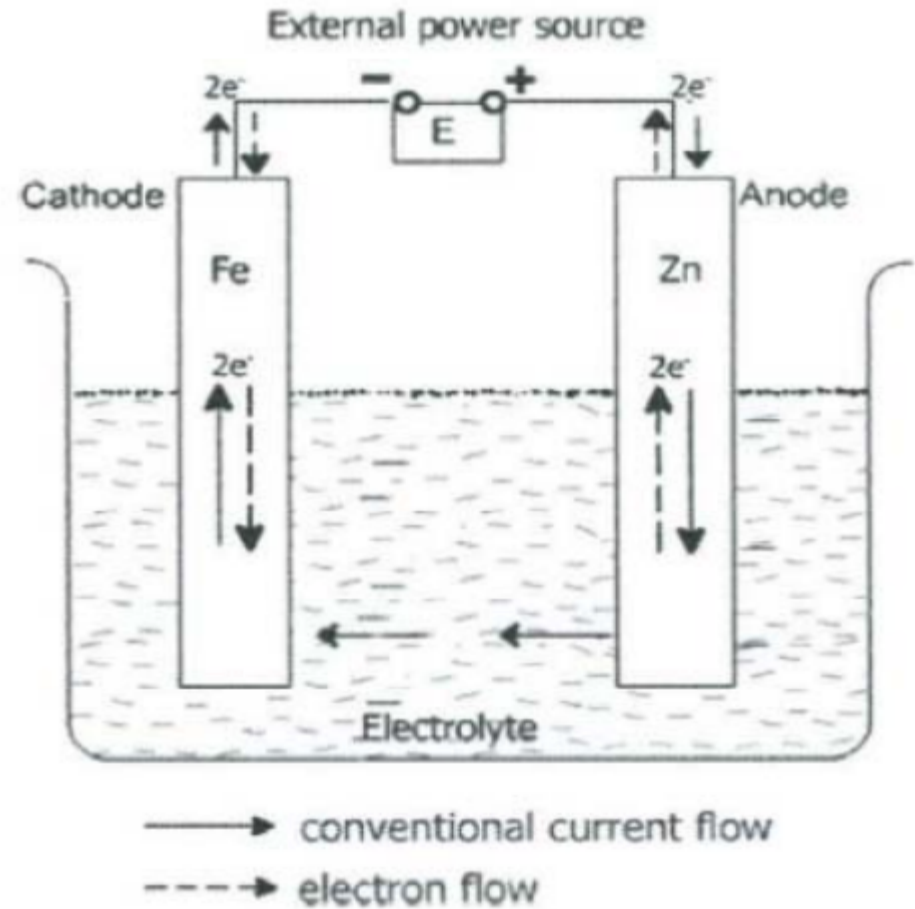

Figure 7 Electrolytic cell. The cathode and anode can be any metal.
- The polarity of an **electrolytic cell** is **opposite** to that in a **galvanic (corrosion) cell** (Fig. 7).